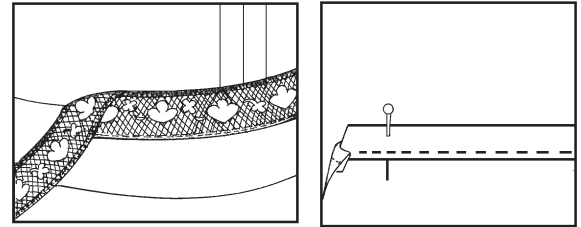

Fig. 13-7
- **Seam tape.** Pin tape or lace to the outside of the raw edge. Be sure $\frac{1}{4}$ inch (6 mm) of the seam tape overlaps the edge of the fabric. Machine-stitch the tape to the hem allowance only. (Fig. 13-7)